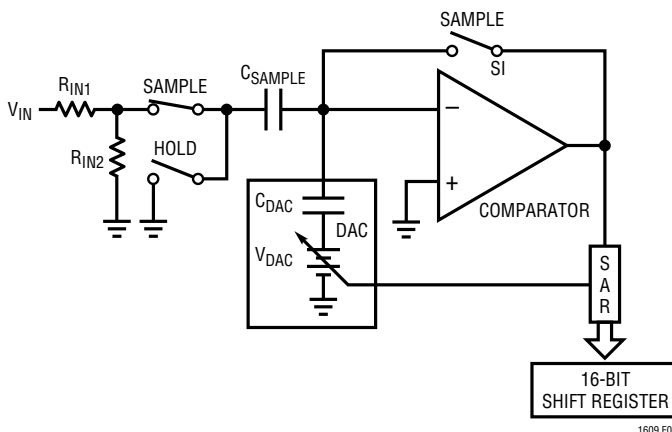

Figure 1. LTC1609 Simplified Equivalent Circuit
**R1IN (Pin 1/Pin 1):** Analog Input. See Table 1 and Figure 1 for input range connections.
**R2IN (Pin 3/Pin 3):** Analog Input. See Table 1 and Figure 1 for input range connections.
**R3IN (Pin 4/Pin 4):** Analog Input. See Table 1 and Figure 1 for input range connections.
During the conversion, the internal 16-bit capacitive DAC output is sequenced by the SAR from the most significant bit (MSB) to the least significant bit (LSB). Referring to Figure 1,  $V_{IN}$  is connected through the resistor divider to the sample-and-hold capacitor during the acquire phase and the comparator offset is nulled by the autozero switches. In this acquire phase, a minimum delay of  $2\mu s$  will provide enough time for the sample-and-hold capacitor to acquire